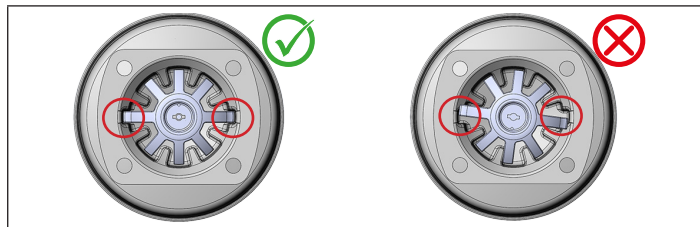

Fig. 11: Correct and incorrect position of the compressor
▶ Ensure the correct position of the compressor (see "Fig. 11").